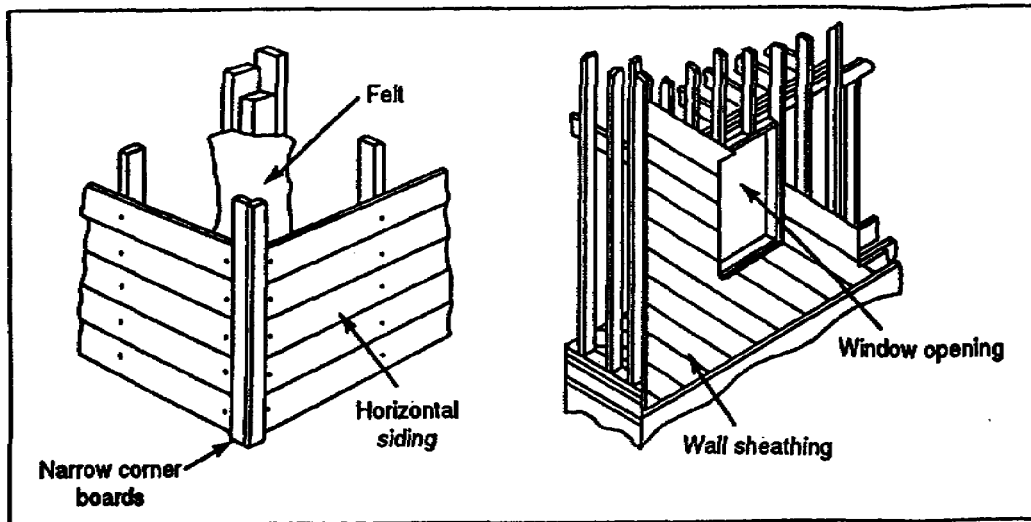

Figure 2-21. Wood sheathing
a. Wood Sheathing. Wood sheathing may be nailed on horizontally or diagonally (see Figure 2-21) however, diagonal application adds much greater strength to the structure. If the sheathing is to be put on horizontally, start at the foundation and work toward the top. If it is to be put on diagonally, start at the corner of the building and work toward the opposite wall.